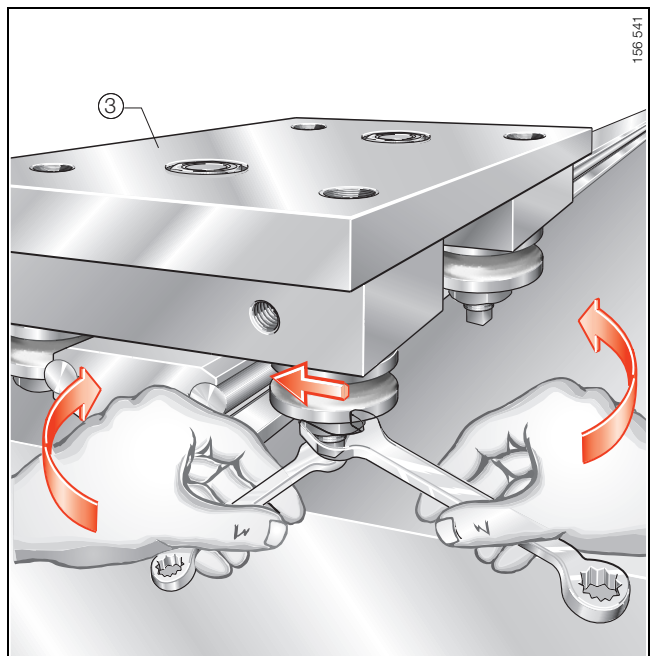

Figure 5 · Fitting the carriage and setting the profiled track rollers clearance-free
- Push the carriage LFDL..B ③ onto the guideway (Figure 5).
- Turn the eccentric bolts using an open-end wrench or ring wrench so that the track rollers are set against the raceway (Figure 5). Note the direction or rotation.
- Tighten the hexagonal nut to the tightening torque M_A (Figure 5, Table 3).